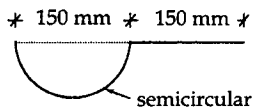

Fig. 4
3. (a) Find the c.g. of a thin uniform wire bent as shown in fig. 4.